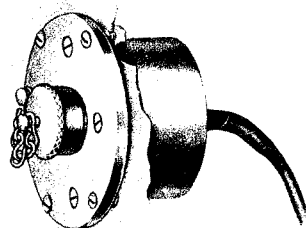

Fig. 8 — Installation of KS-8420 Jack
5.07 Install the KS-8420 jack at outdoor locations (for ships, boats, trains, etc) as follows (see Fig. 8) :